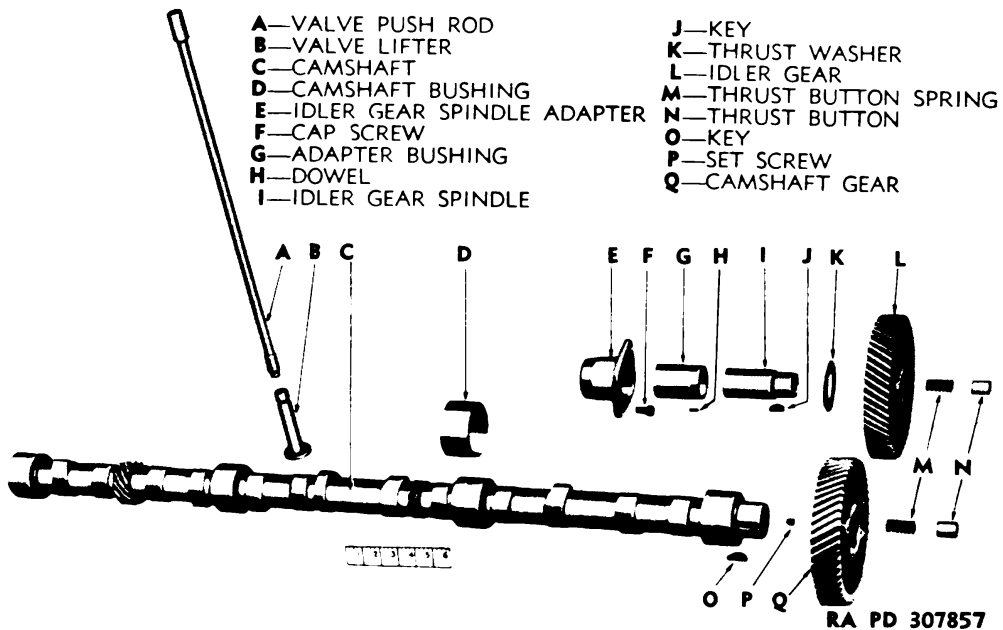

Figure 52 — Camshaft and Idler Gear Assemblies Disassembled
c. **Install Gears on Camshaft and Idler Gear Spindle (fig. 52).** Tap key into slot in end of camshaft and press camshaft gear (54 teeth) onto end of camshaft with timing mark towards outer side. Tap key into slot in end of idler gear spindle and press idler timing gear (57 teeth) onto end of spindle with timing marks towards outer side.